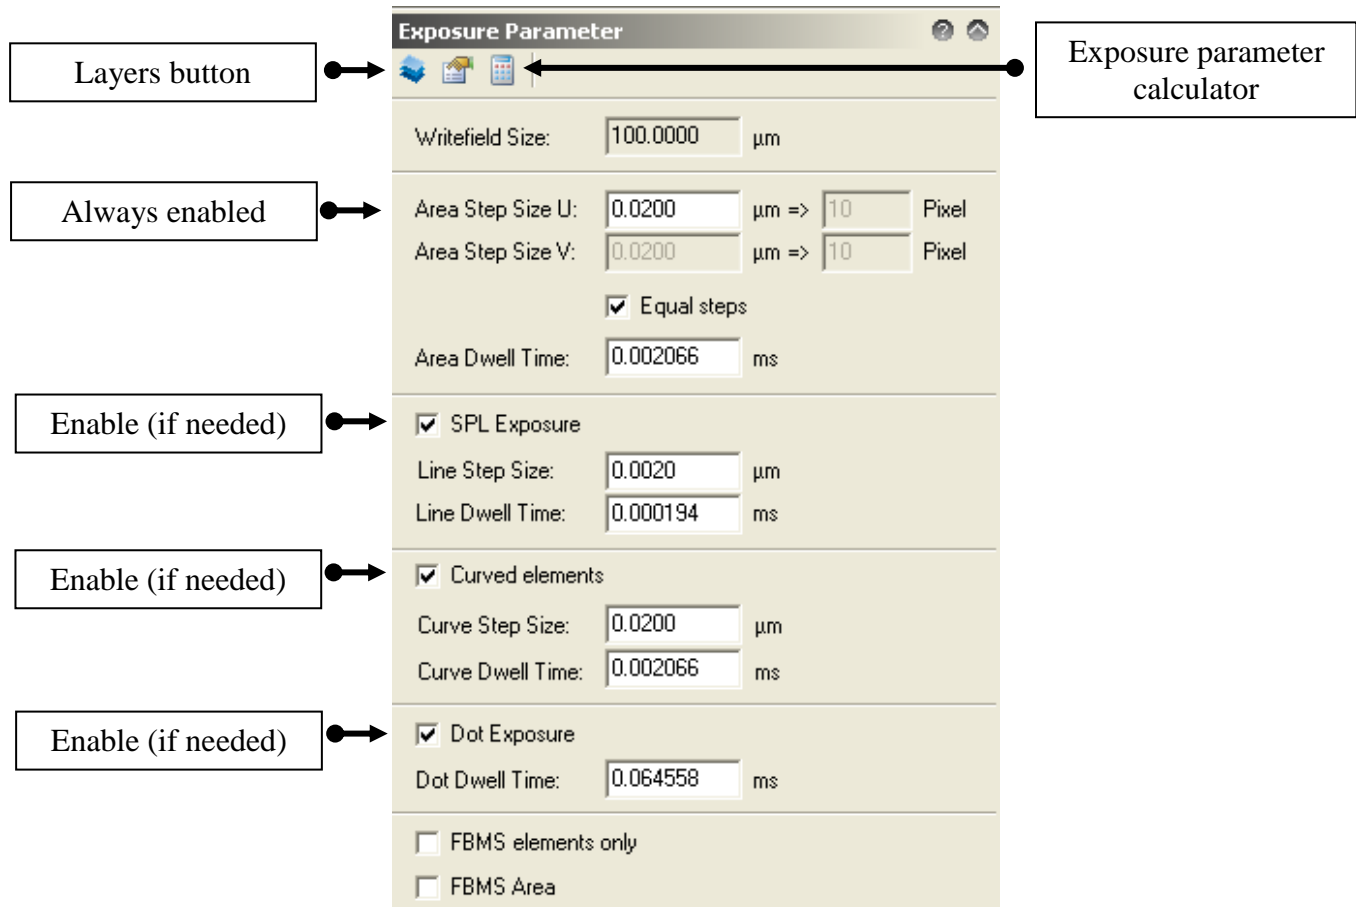
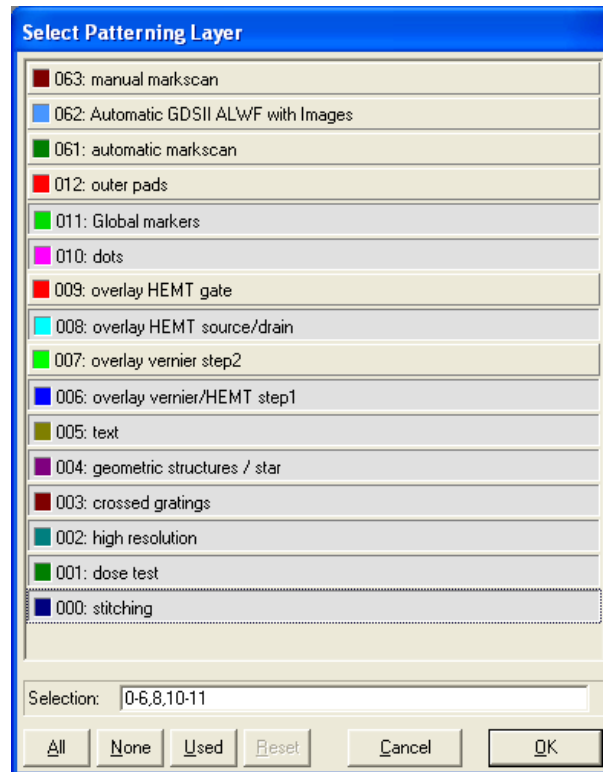
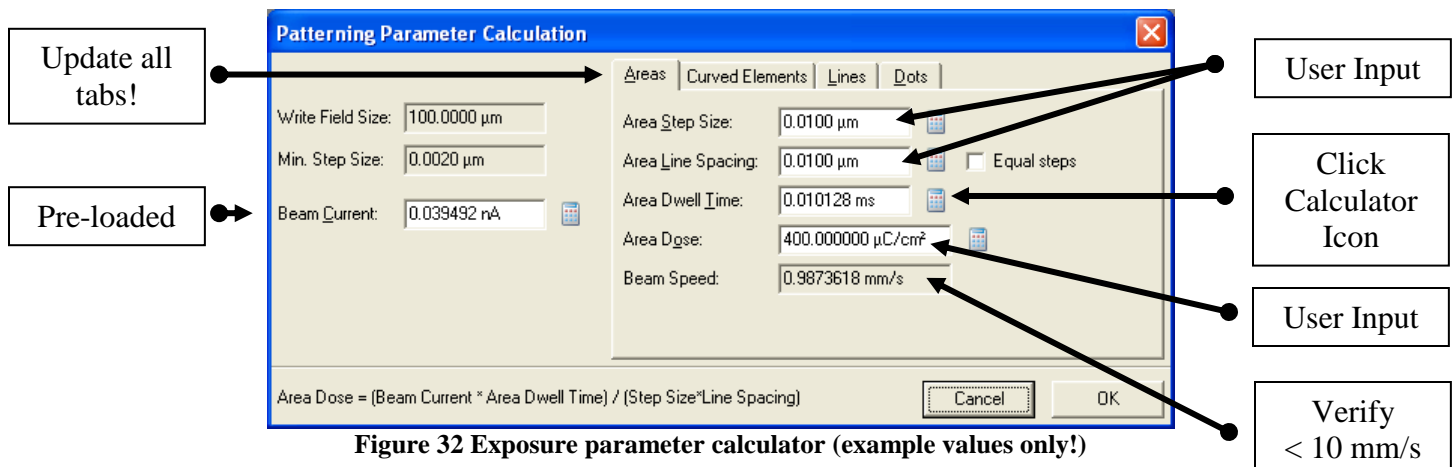

Figure 30 Exposure Parameter window in Exposure menu
Figure 31 Select layers for exposure
Figure 32 Exposure parameter calculator (example values only!)
29. Select the **Exposure** icon and enable the **Exposure Parameter** window (Fig. 30).
30. Refer to Fig. 30. Click the **layers** button from the **Exposure Parameter** window. A window (Fig. 31) will pop-up which allows the user to select which layers are to be exposed. It is better to select the layers manually; however, for custom patterns known to the user, the **Used** button may be clicked to select multiple layers simultaneously. Press **OK** when done.
31. Refer to Fig. 30. Click the **exposure parameter calculator** icon. A window (Fig. 32) will pop-up allowing the user to input various parameters. For *your* process, please ask your trainer/colleagues for sample values or consult the various manuals on the **NanoFab website >> Resource Library**. As a broad guideline, ensure that **Step Sizes** and **Beam Speed** do not exceed 20 nm and 10 mm/s respectively. Optimal values for both parameters may be significantly lower depending on *your* process.